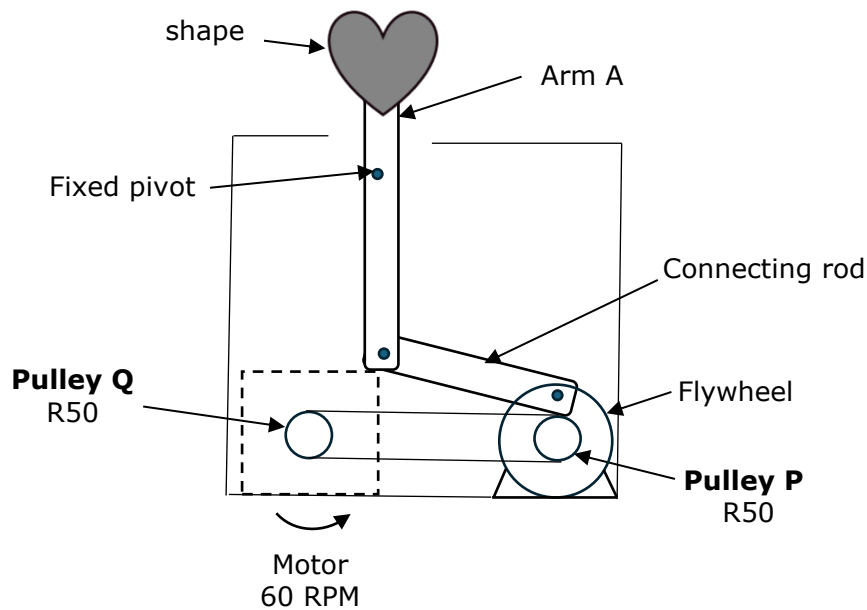
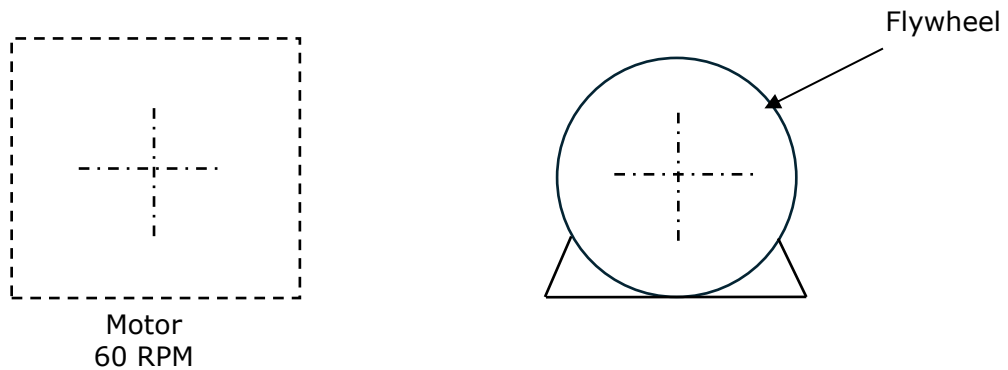

Figure 7
Figure 8
20. The manufacturer of the lamp issued a mechanical upgrade which adds the function of a moving heart shape, themed with the static lamp. Figure 7 shows a mechanical system which makes the shape move.
- b. On Figure 7, indicate the direction of movement of the shape by means of arrows. (1)
- d. Figure 8 shows an incomplete pulley part of the mechanism shown in Figure 7.
On Figure 8, use sketches and annotations to explain how to make Pulley P rotate at half the motor speed.